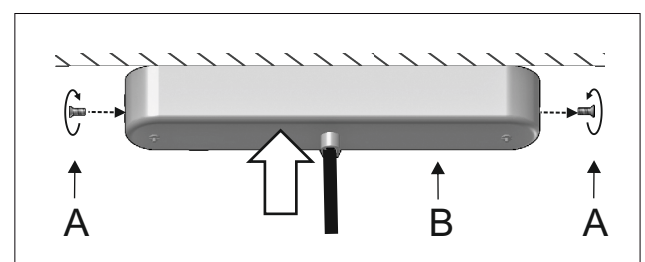

Figure 4
4 - Place the canopy (B) and fasten the side screws (A). Figure 4.